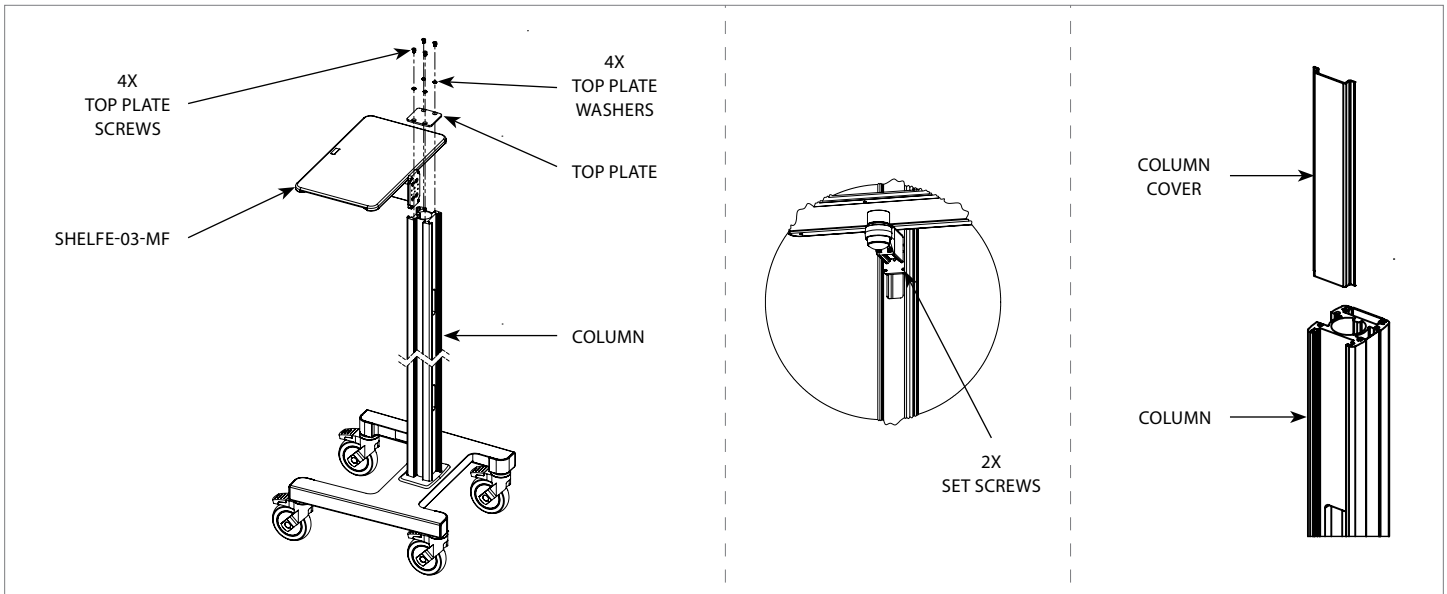

Figure 3
- Slide the **SHELF** into the **COLUMN** front channel slowly. Move the **SHELF** down until the recommended height and secure by tightening the 2x **SET SCREWS** using 1/8" Allen key. Ensure the **COLUMN** is covered by cutting the **COLUMN COVER** as needed (**Figure 3**).